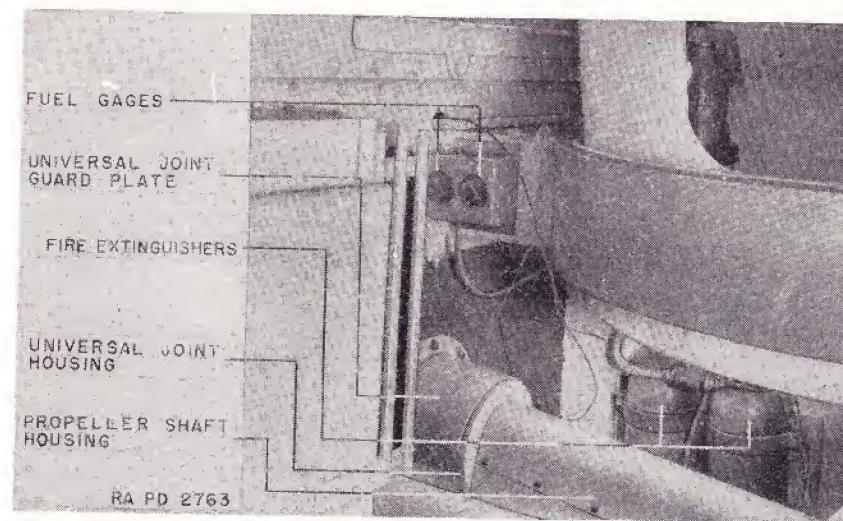

FIGURE 38.—Interior view, right side of bulkhead.
65. Gages (fig. 38).—Two electrically operated fuel gages are mounted in a small box located near the oil cooler in the rear of the